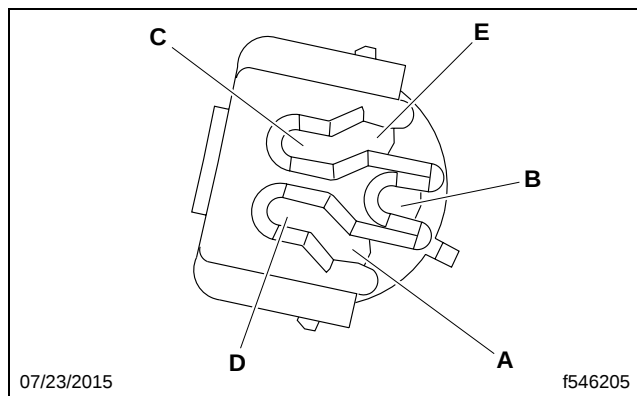

Fig. 4, ABS Connector
12. Disconnect the ABS connector. See **Fig. 4**. The ABS connector is located inside the left frame rail, just forward of the back-of-cab crossmember.